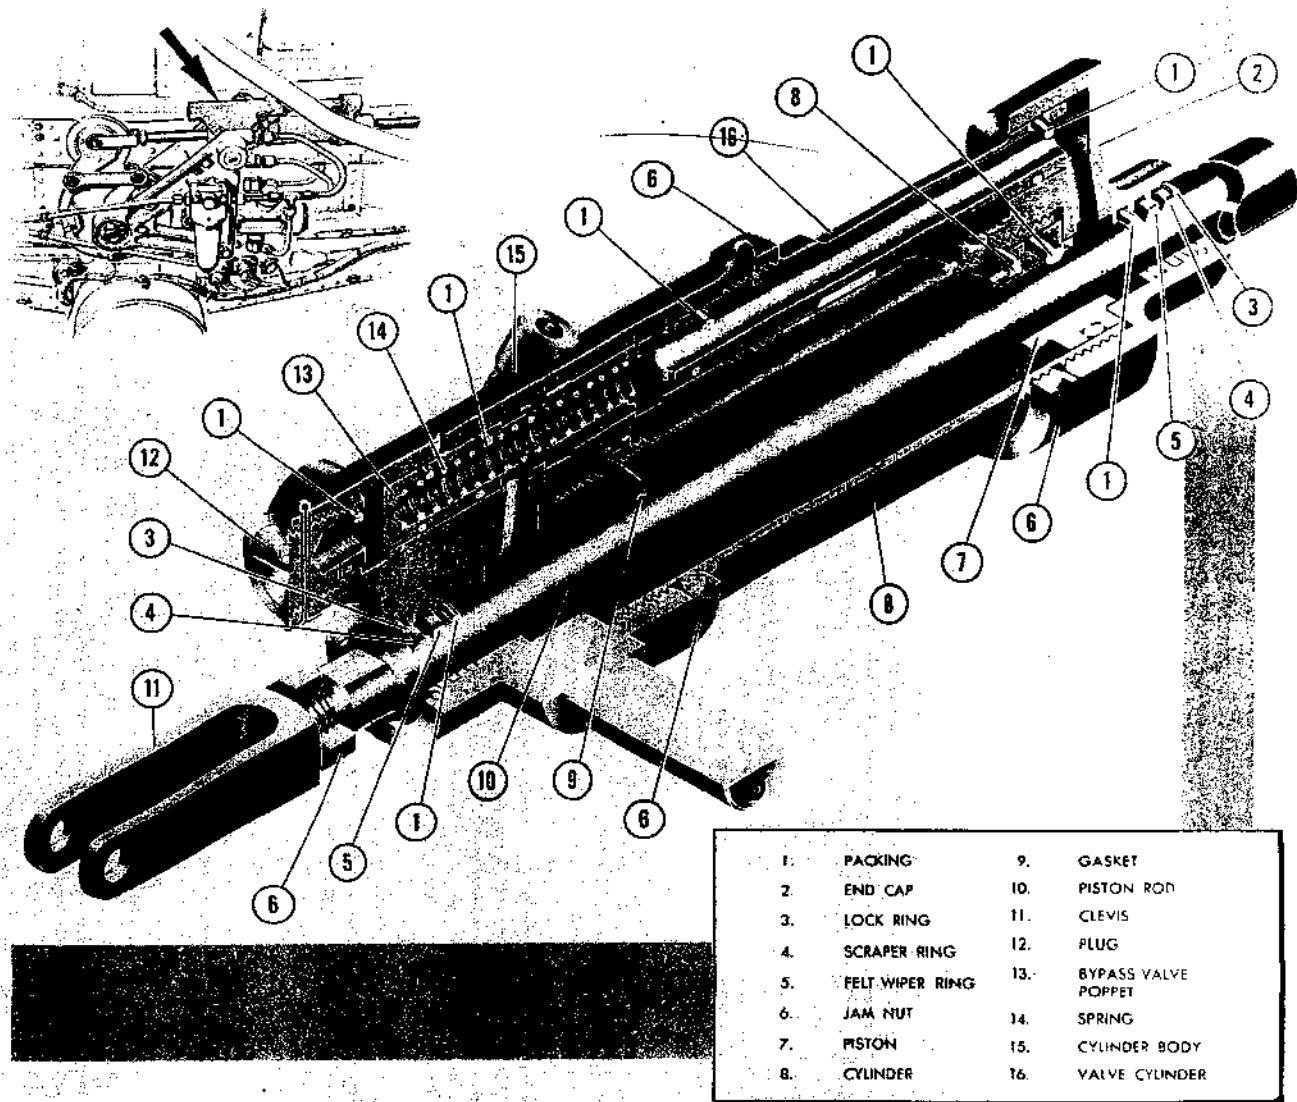

Figure 169 — Aileron Booster Actuating Cylinder
(3) AILERON BOOSTER ACTUATING CYLINDER, (See figure 169.)
(e) ASSEMBLY.—Reverse disassembly procedure. Lubricate all packings and bores prior to assembly to prevent damage to packing rings. When installing valve cylinder (figure 169, reference 16), screw cylinder in until it bottoms, then back it out one to two turns, wherever booster operates best, tighten jam nut, and lock-wire in position.